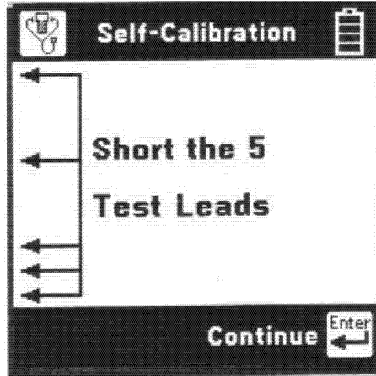

Figure 29. AST900 Self-Calibration Prompt Display
- c. Connect all the test leads and short them together as shown on the display (see Figure 29).